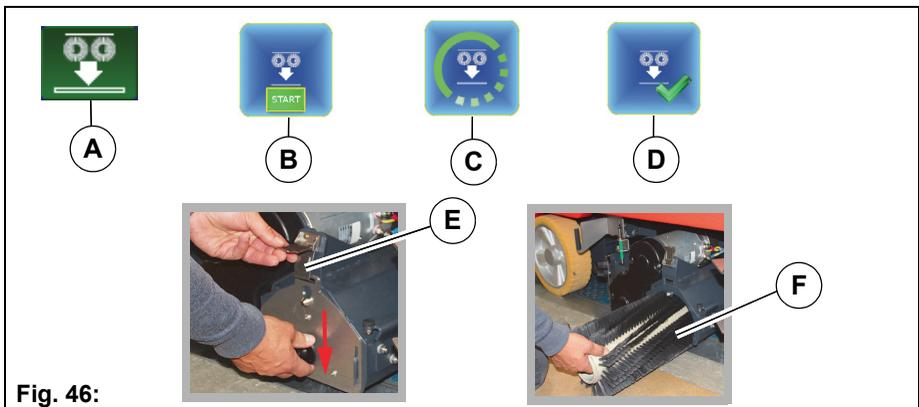

Fig. 46:
Select the soft key *Bring to change position* **Fig. 46-A** using the turn-push knob and confirm. The action window **Fig. 46-B** opens. Use the turn-push knob to confirm the start.
The procedure starts and symbols **Fig. 46-C, D** appear on the multifunction display one after the other. Only now is the procedure complete.
3. Open the fastener **Fig. 46-E**, push the cover downwards and remove it.
4. Remove the brush **Fig. 46-F**.